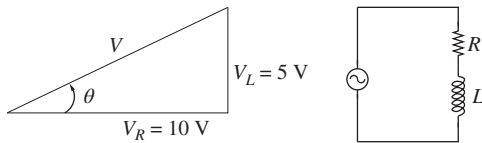

Figure P3.34 Phasor diagram of an RL circuit.
- 3-34.** The phasor diagram of a series RL circuit is shown in Fig. P3.34, where V_R is the voltage across the resistor, V_L is the voltage across the inductor, and V is the